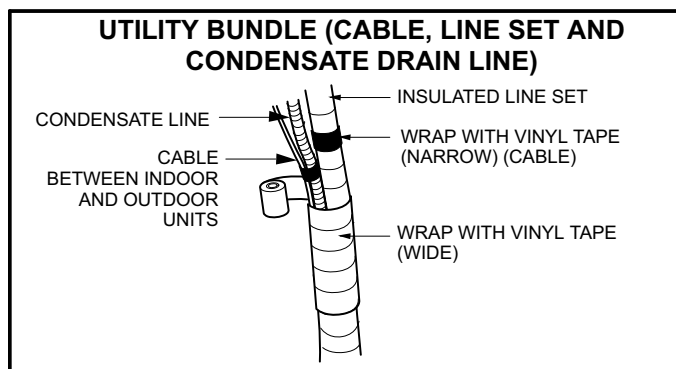

FIGURE 46
5. Start from the bottom of the bundle at the outdoor unit and use tape to bundle the condensate line with the control wiring and line set (figure 46).